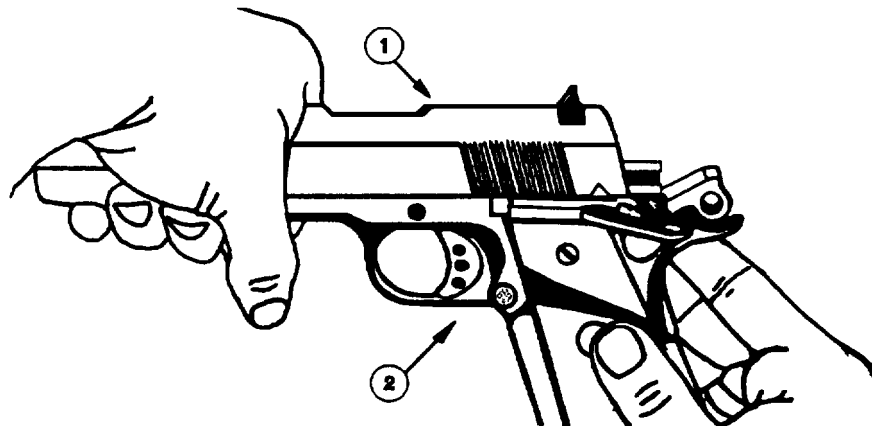

Figure 3-6. Separating The Slide Assembly From The Receiver Assembly
f. Separate the slide assembly (1), Figure 3-6, from the receiver assembly (2),